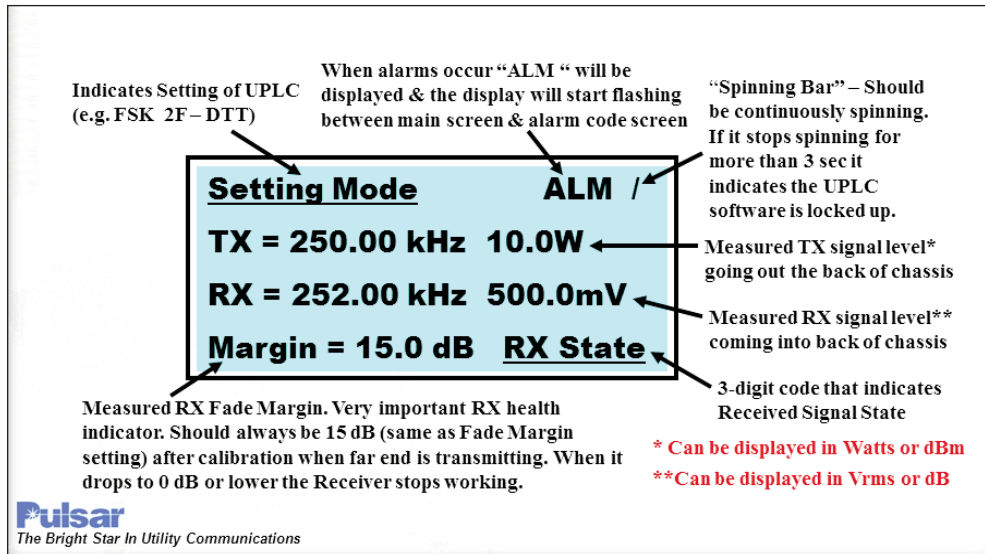
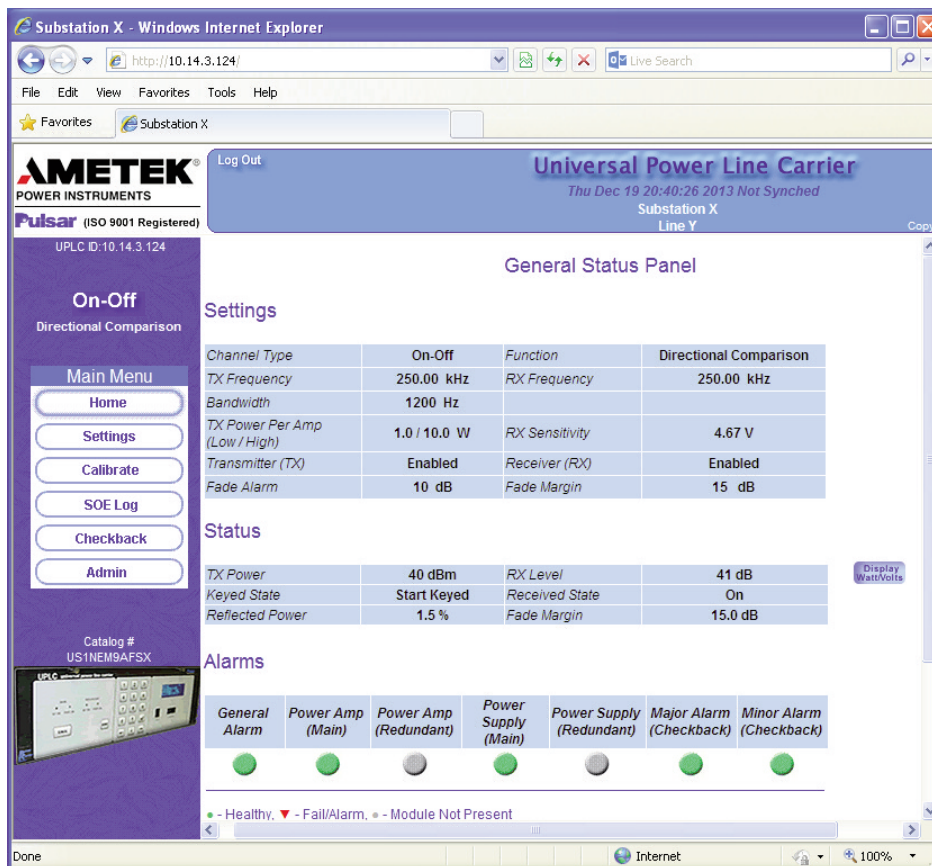

Figure 4-1. Front Panel Display Descriptions
Figure 4-2. Example of the Home Page (ON/OFF Mode)
3. Front Display (Fig. 4-1) or Home page checks (Fig. 4-2)